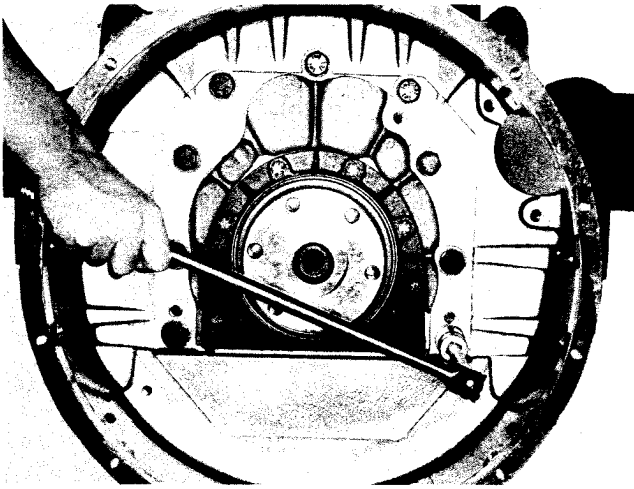

Fig. 0-28, (N100114). Removing flywheel housing
2. Remove cap screws, lockwashers and flatwashers (Fig. 0-28) securing flywheel housing to cylinder block; drive housing from dowels with block of wood or soft hammer.